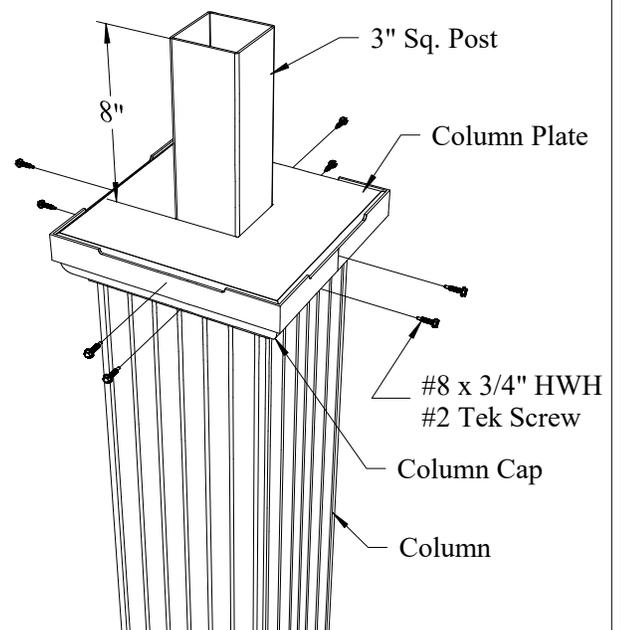

Fig. 3-6
- Push the column cap up until the top of the column plate is 8" below the top of the post. Attach the column plate to the column using (6) #8 x 3/4" HWH #2 Tek screws (see Fig. 3-6).
- Attach the column cap to the column plate using (4) #8 x 3/4" HWH #2 Tek screws as shown (see Fig. 3-6).